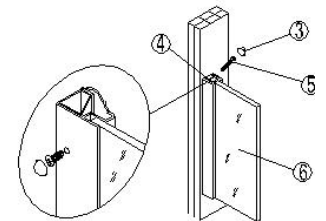

Fig.4
Step2: Screw the wall profile (#4 in PL) and fixed panel profile with ST4\*12 screws. Attach the screw cap. See Fig.4